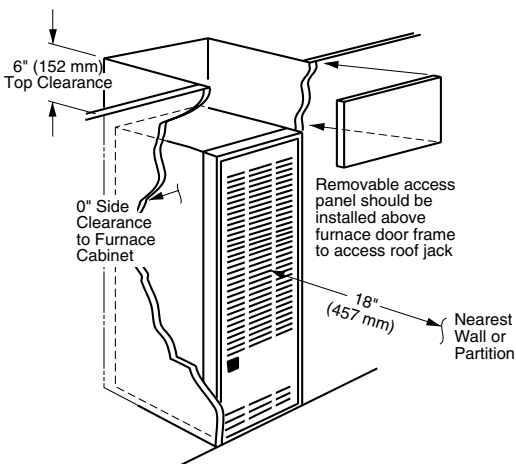
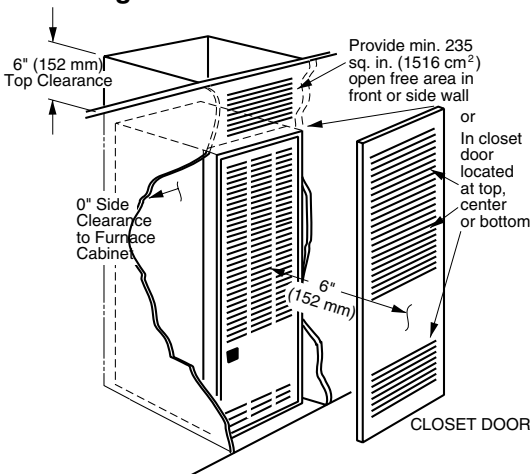
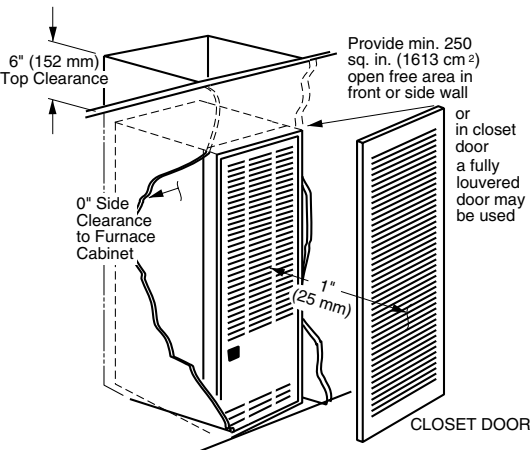

Figure 1. Alcove Installation
Figure 2. Closet Installation
Figure 3. Special 1" Clearance
This heating appliance must be installed with clearances not less than the minimums listed in Table 1, \(page 5\). This furnace must be installed with ample clearance for easy access to the air filter, blower assembly, burner assembly, controls, and vent connections. See Figure 1, Figure 2, and Figure 3.
- The dimensions of the room or alcove must be able to accommodate the overall size of the furnace and the installation clearances listed in Table 1, (page 5) and Figure 1 (page 4)